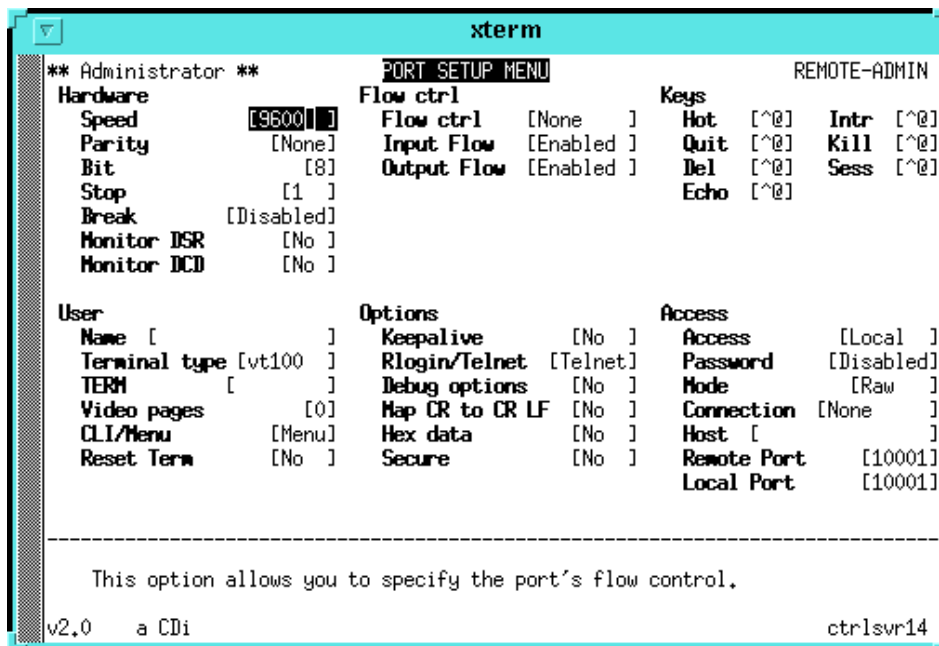

Figure B-4: Port Setup Menu for Port 1
3. The Port Setup Menu displays (see Figure B-4). Enter the required information in the fields for each area (bulleted items above). For more information on required entries, please refer to the *CHASE User and Administration Guide*.